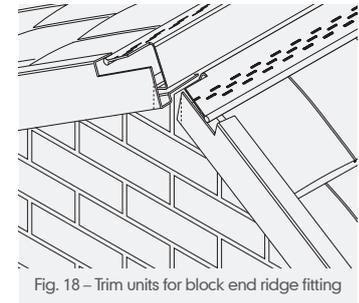

Fig. 18 – Trim units for block end ridge fitting
- When using a bedded ridge and/or block end ridge tile, the verge extrusion will need to be cut away to accommodate the internal rib of the tile and provide a close fit to the outer face of the verge extrusion (Fig. 18).